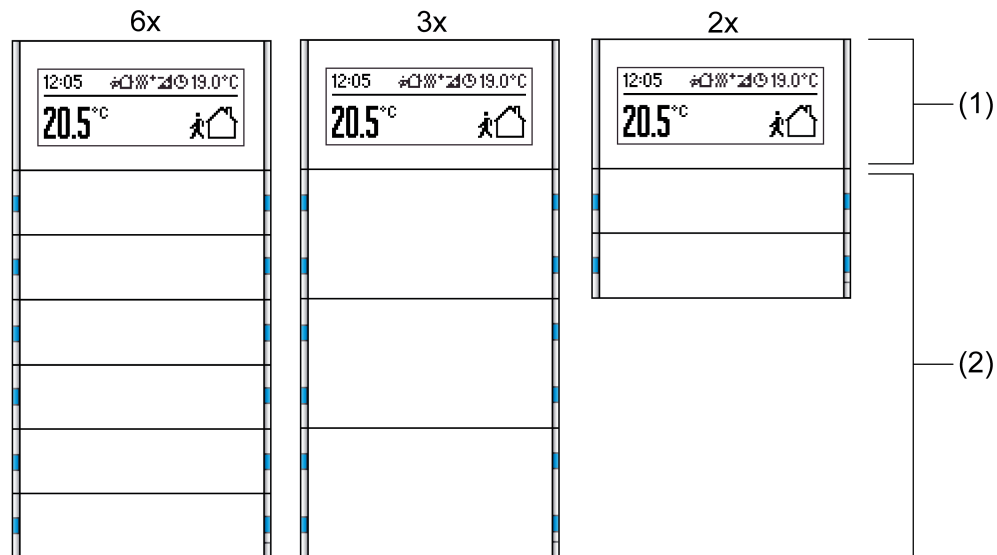

Figure 5: Arrangement of the control surfaces on the front of the device
Depending on the device variant in the F100 design, the device consists of up to 7 mechanically separate control surfaces. The control surfaces are the design covers attached to the device with push button elements underneath. A distinction is made between the display control surface (1) and the control surfaces of the push button sensor function (2) (Figure 5).